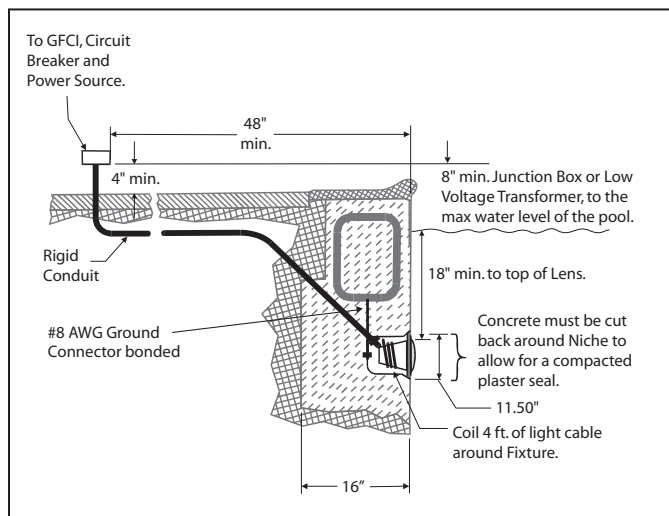
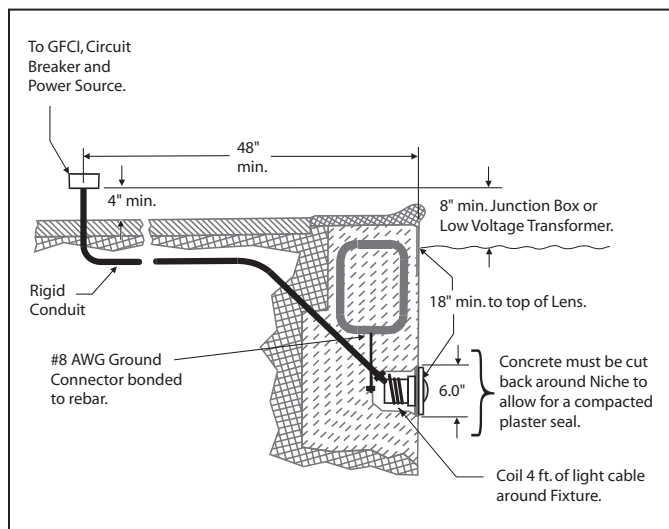

Figure 1. Jandy Pool White Light Installation
Figure 2. Jandy Spa White Light Installation
NOTE The electrician must complete preparatory steps before light fixture is installed; see Figure 1 (or Figure 2, for spa).
2. The Junction Box (or, for 12 volt models, the low voltage transformer) must be located at least eight (8) inches above water level, at least four (4) inches above ground level or pool deck level, and at least four (4) feet from the edge of the pool or spa; see Figure 1 for pools and Figure 2 for spas.
3. The light fixture and all metal items within five (5) feet of the pool or spa must be properly electrically bonded to a reliable point of grounding.
4. The wet niche must be properly installed so that the top edge of the underwater light's lens is at least 18 inches below the surface of the water in the pool or spa; see Figure 1 or 2.
5. The wet niche must be properly electrically bonded and grounded via the No. 8 AWG ground connector located at the rear of the niche; see Figure 1 or 2.
1. Feed cord through conduit to Junction Box, leaving at least four (4) feet of cord at the light fixture to coil around the light; see Figure 1 (or Figure 2, for spa). This four (4) feet of cord around the light allows the light to be serviced after the pool or spa is filled with water.
2. Cut the cord at the Junction Box, leaving at least six (6) inches of cord to make connections.
3. Strip six (6) inches of the outer cord jacket to expose the three insulated wires. *Be careful not to damage the insulation on the three (3) inner wires.*
4. Install strain relief over cord jacket and connect all three (3) wires to the corresponding circuit wires in the Junction Box. Install the Junction Box cover.
2. The Junction Box (or, for 12 volt models, the low voltage transformer) must be located at least eight (8) inches above water level, at least four (4) inches above ground level or pool deck level, and at least 48 inches from the edge of the pool or spa; see Figure 1 (or Figure 2, for spa).
4. The wet niche must be properly installed so that the top edge of the underwater light's lens is at least 18 inches below the surface of the water in the pool or spa; see Figure 1 (or Figure 2, for spa).
5. The wet niche must be properly electrically bonded and grounded via the No. 8 AWG ground connector located at the rear of the niche; see Figure 1 (or Figure 2, for spa).
5. Leave at least four (4) feet of cord to coil around the light fixture; see Figure 1 (or Figure 2, for spa). This allows the light to be serviced after the pool or spa is filled with water.
6. Cut the cord at the Junction Box, leaving at least six (6) inches of cord to make connections.
7. Strip six (6) inches of the outer cord jacket from the cord to expose the three insulated wires. Be careful not to damage the insulation on the three inner wires.